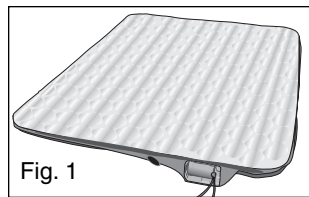

Fig. 1
2. Place your GuestRest™ bed on the floor or other surface free of obstructions or sharp objects that may damage your product (see Figure 1).